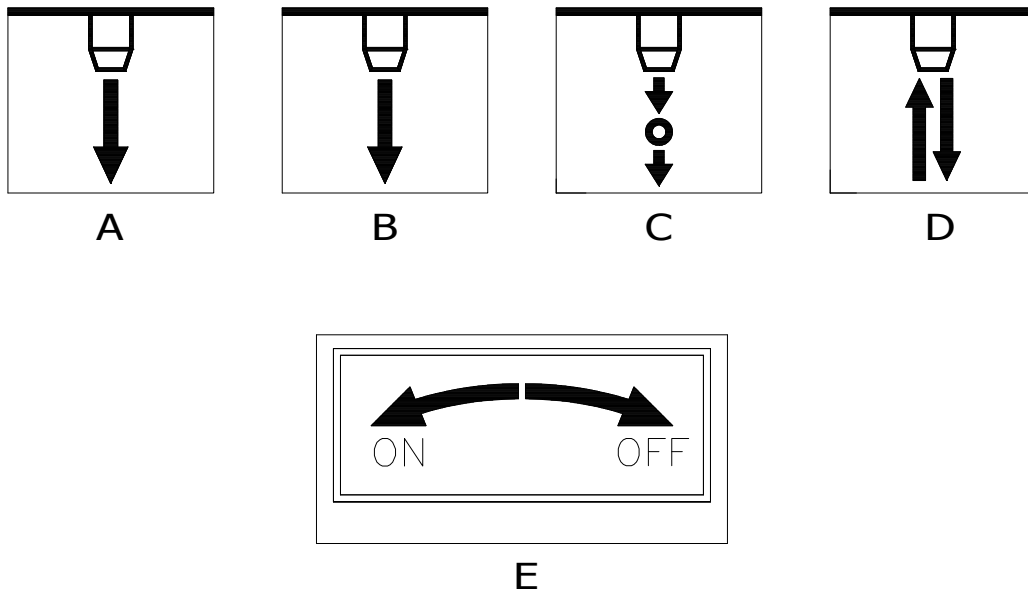

FIG. 6-5B
2. THERE ARE 4 FLUSHING MODES. (FIG. 6-5B)